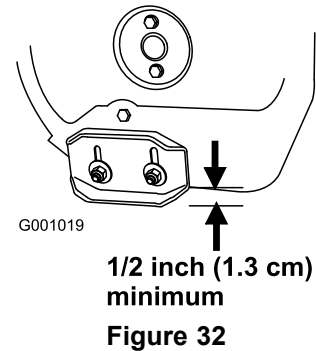

Figure 32
2. Loosen the nuts that secure both skids to the auger sides until the skids slide up and down easily (Figure 32).